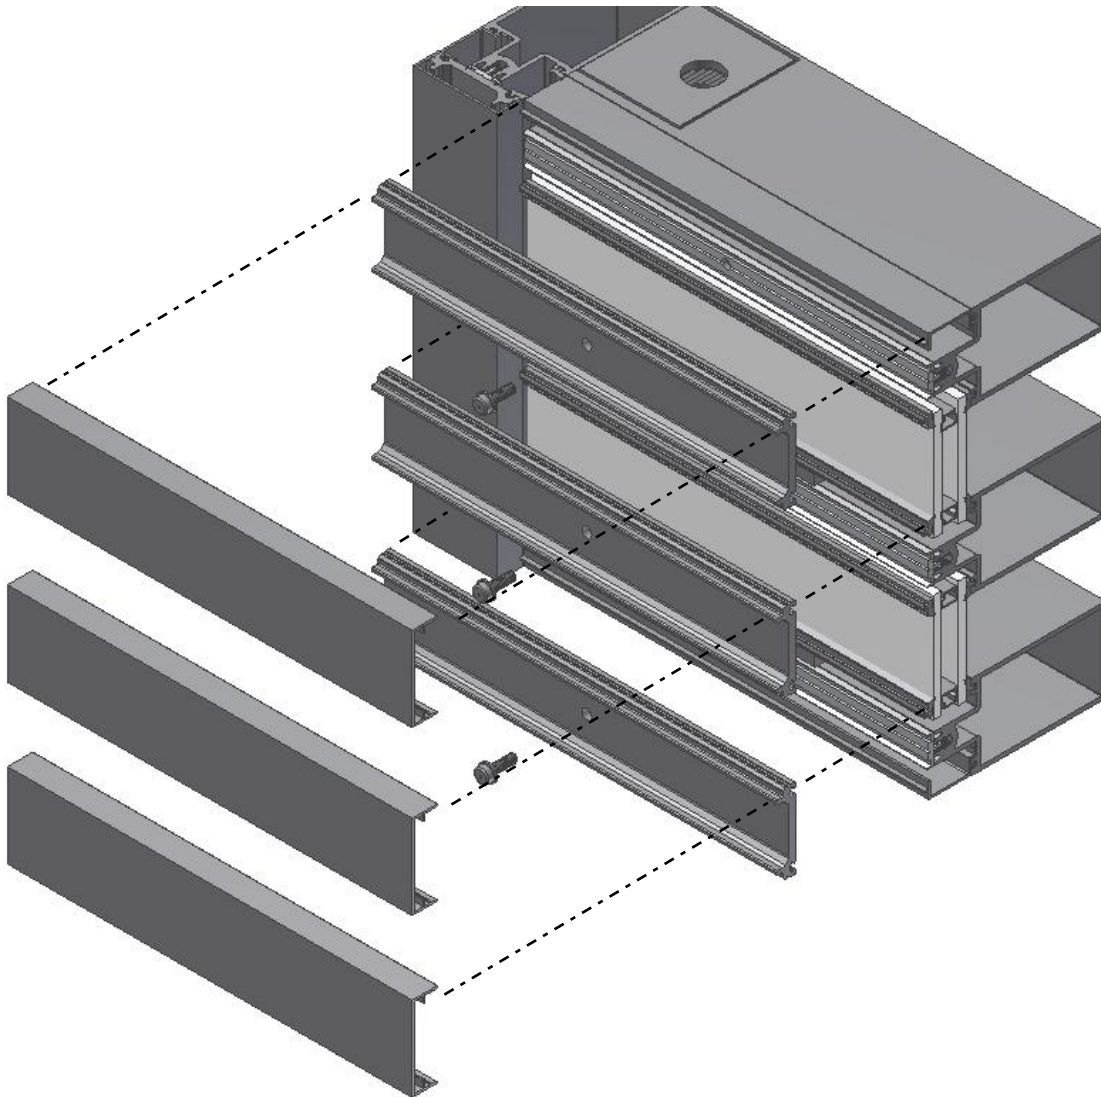

Figure 27: Install the horizontal pressure plate.
- Install the horizontal pressure plate using an S362 screw as shown in Figure 27.